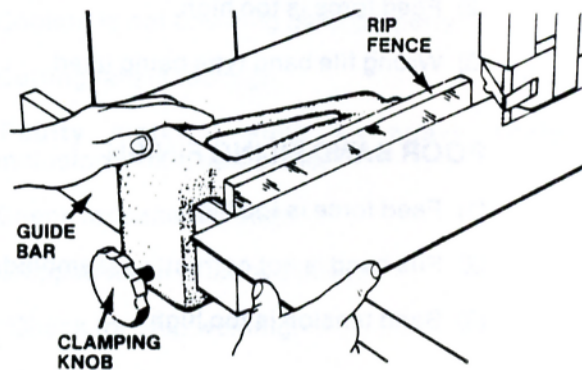

FIG. 23. RIP FENCE SET-UP.
- (1) Square fixture during installation so it is in line with table slot.
- (2) Before attempting a long cut, check to see that band is not worn on one side. This will cause stock to wander relative to rip fence guide bar. See Fig. 23.